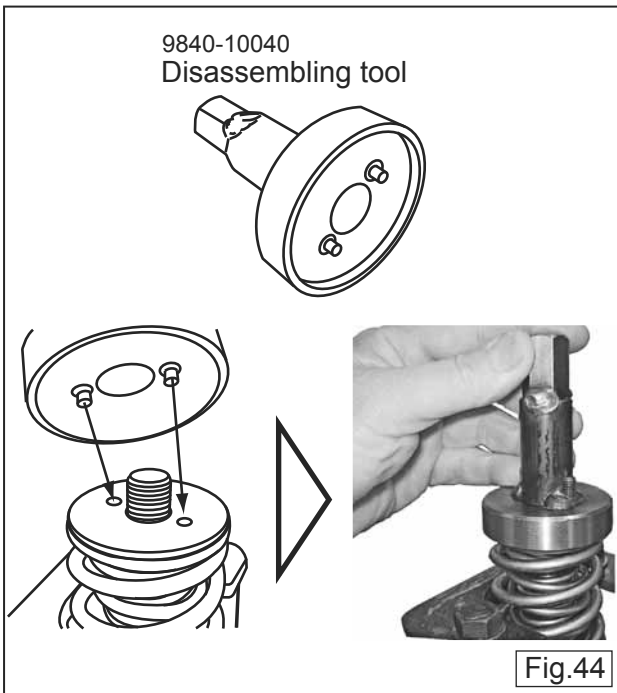

Fig.44
e. Remove the spring holder with the spring holder disassembling tool. (Fig. 44)